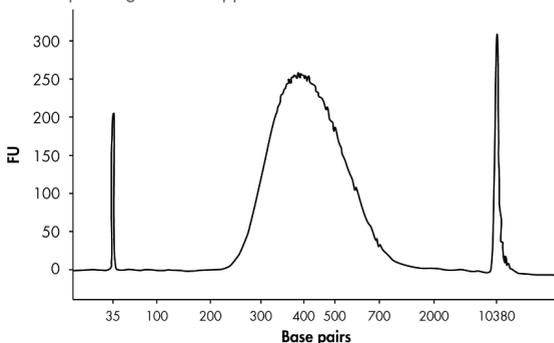

Figure 1. Capillary electrophoresis device trace data.
9. Assess the quality of the library using a capillary electrophoresis device such as QIAGEN QIAxcel or Agilent BioAnalyzer. Check for the expected size distribution (see Figure 1) of library fragments and for the absence of an adapters or adapter-dimers peak around 120 bp.
**Note:** The library should show a distribution centered around the size of the fragmented DNA plus 120 bp (see Figure 1). The increase in library length reflects the addition of sequencing adapters to the DNA fragments.